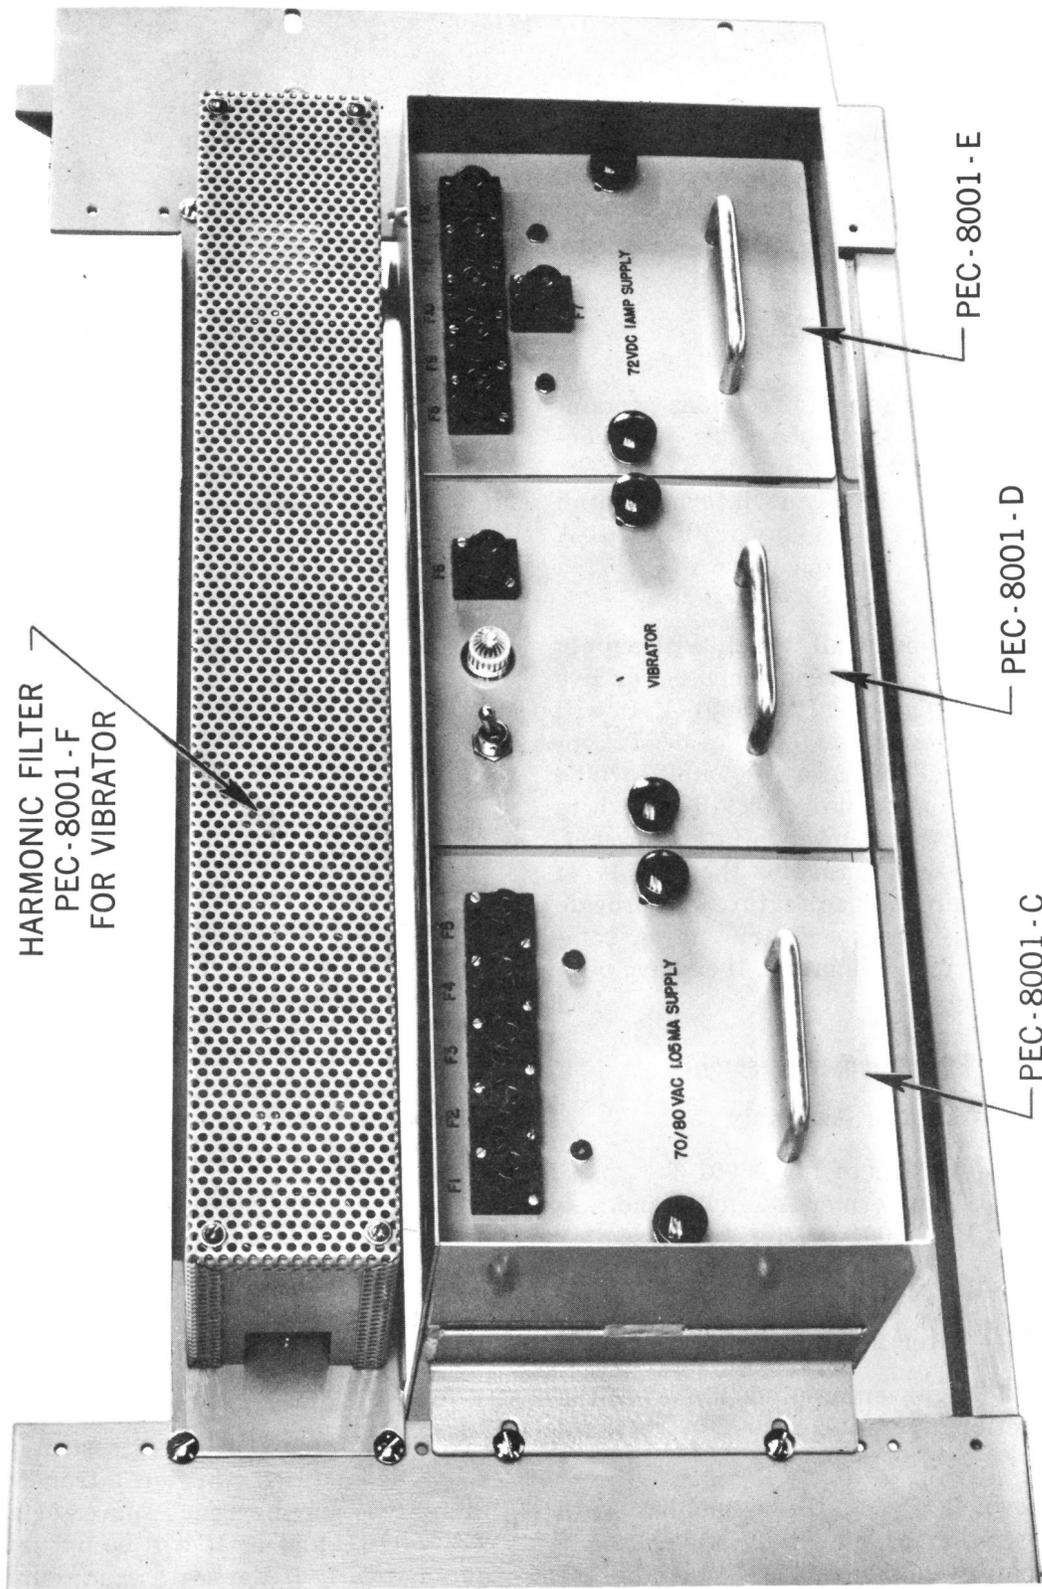

Fig. 1 — Power Supply, Front View
**1.03** As shown in Fig. 1, the assemblies, with the exception of the filter assembly, are contained in drawer-like units. By turning the knurled knobs counterclockwise to unlock them, the units can be withdrawn part way with the